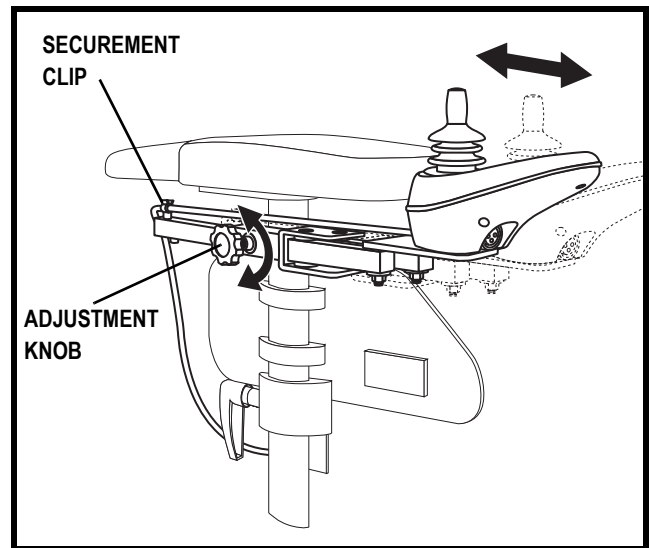

Figure 23. Controller Position
4. Loosen the adjustment knob on the armrest where the controller is currently located. See figure 23.
5. Loosen the adjustment knob on the armrest where the controller will be installed. See figure 23.
1. Loosen the adjustment knob on the armrest. See figure 23.